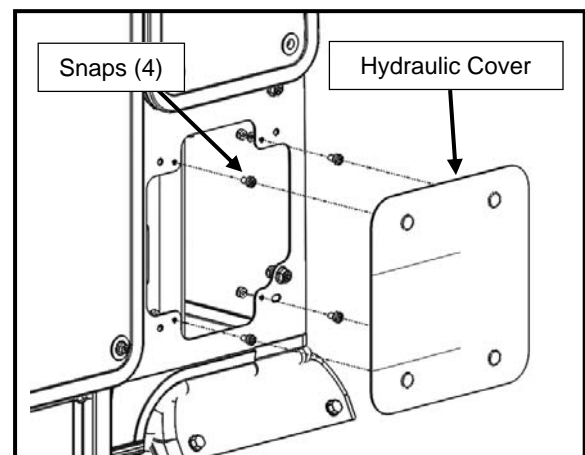

Figure 1.7: Hydraulic Cover
- 1.7 Fasten (4) #10-32 snap studs and (4) #10 hex nuts as shown in Figure 1.7.